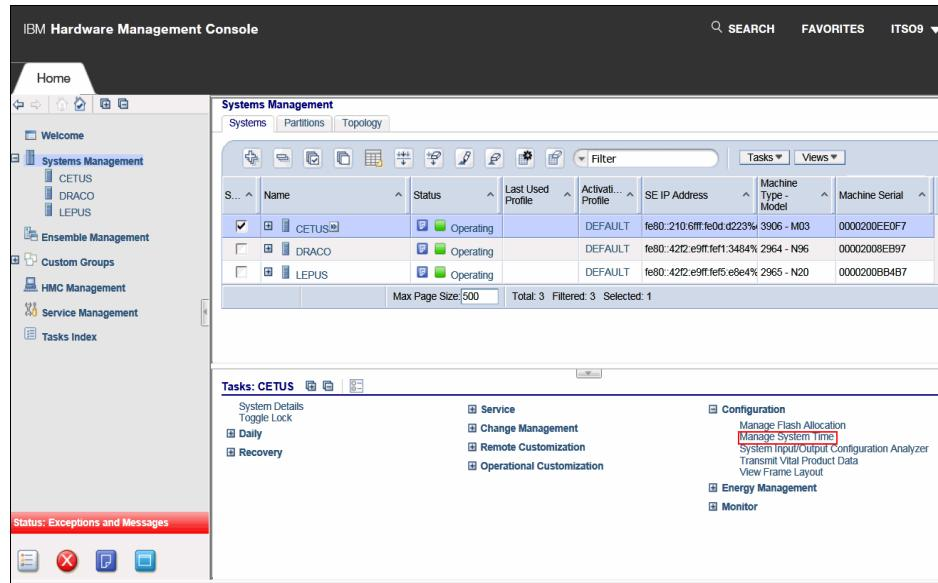

Figure 8-32 Manage System Time CPC selection
1. In the HMC, select the CPC to configure STP and **Manage System Time**, under the Configuration task (Figure 8-32).